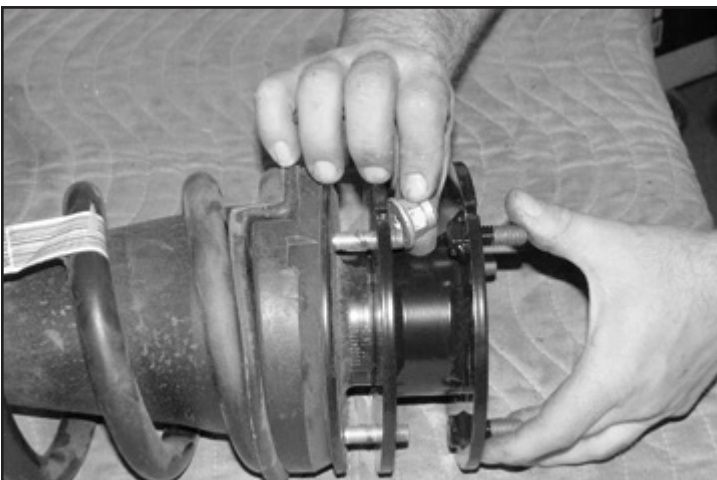

FIGURE 30
30. Install the FT20801 coil spacer using the factory nuts and torque to 58 ft-lbs. **SEE FIGURE 30**